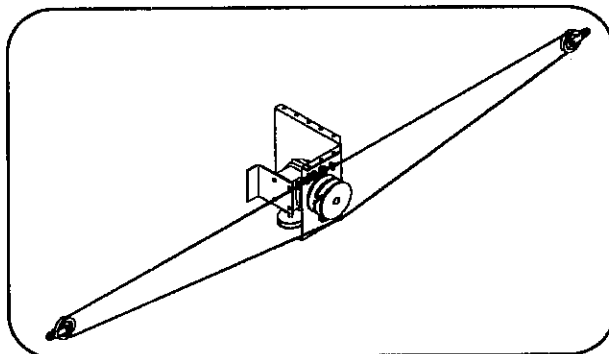

Figure 13
2. Attach one end of the cable loop to the "U" bolt on the winch frame as shown in Figure 13. **IT IS RECOMMENDED THAT LOOP BE DOUBLE CLAMPED TO "U" BOLT.**